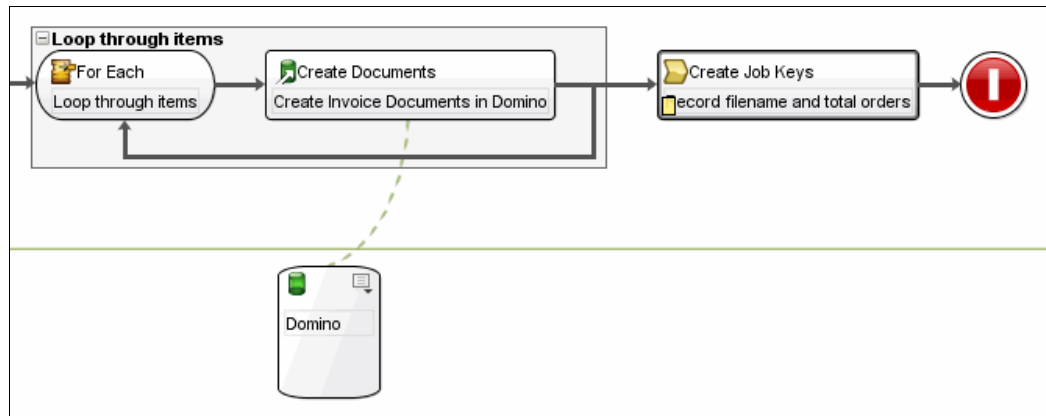

Figure 12-78 Create Job Keys activity
1. From the Activities tab, drag **Utilities** → **Create Job Keys** to the right of and outside the For Each block. Rename it to Record filename and total orders. See Figure 12-78.